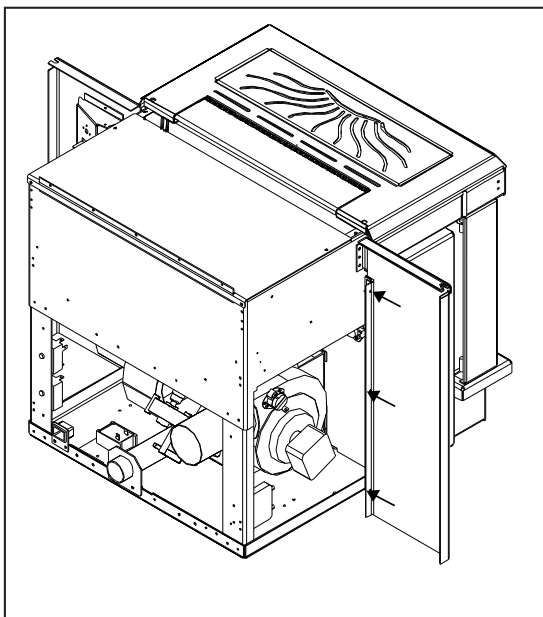

Figure 35: Panel placed on unit.
2. Using three (3) T-20 screws on each side attach the hinges on the side surround panels to the unit's side panels (refer to Figure 35).